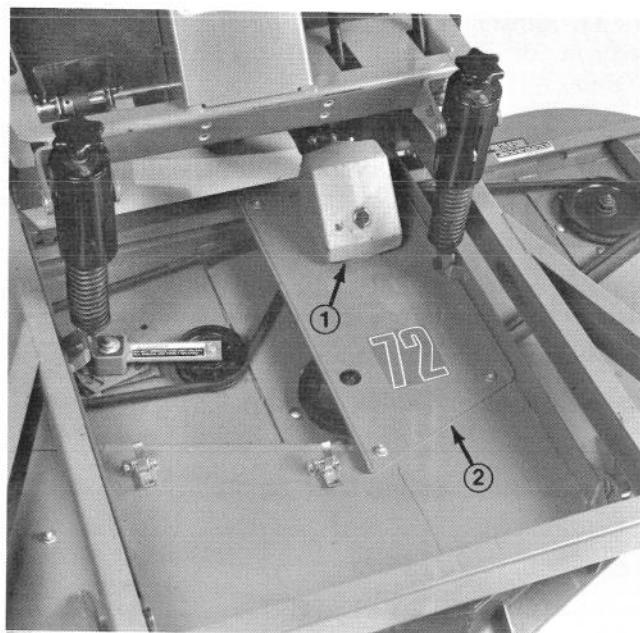

Figure 39
4. Remove four carriage bolts and flange nuts securing gear box base to top of cutting unit (Fig. 39). Slide gear box and base forward until PTO shaft separates. Place gear box base assembly on workbench.
7. Slide PTO shaft into PTO tube. Loop belt around gear box pulley and mount gear box base on top of cutting unit with four carriage bolts and locknuts (Fig. 39).